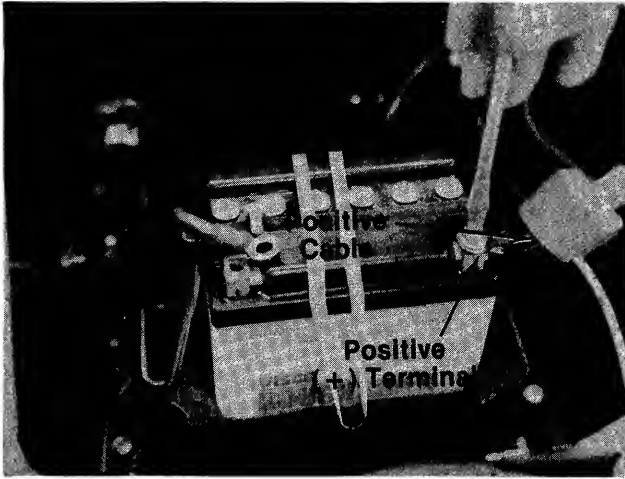

FIGURE 14.
12. Slide the square nut (provided with battery hardware) into the positive (+) terminal. Slide the rubber boot back which is on the positive cable. Place the positive (heavy red wire) cable and the small red wire (with a fuse holder in it) on the positive terminal. Secure with screw and lock washer provided. See figure 14.